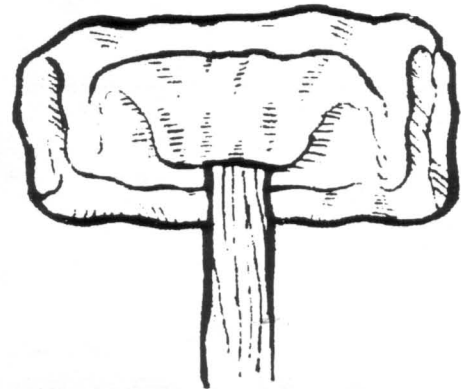

FIG. 4
- 6) Stack the canopy in "S" folds as shown in (FIG. 4), keeping the slider up against the canopy and keeping the slack out of the lines. The stacked canopy should be 3-4 inches wider than the bag: